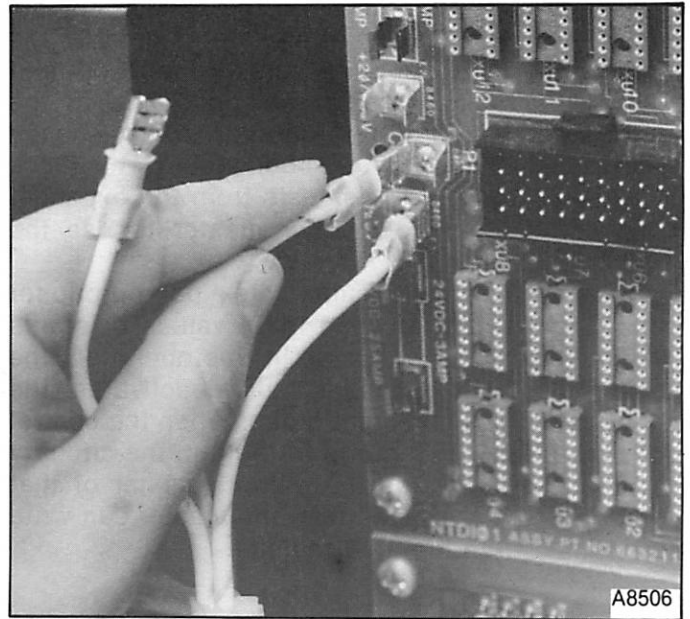

FIGURE 23 — Attaching NETWORK 90 Power and Ground Wiring.
g. Attach NETWORK 90 power and ground wiring (see Figure 23).